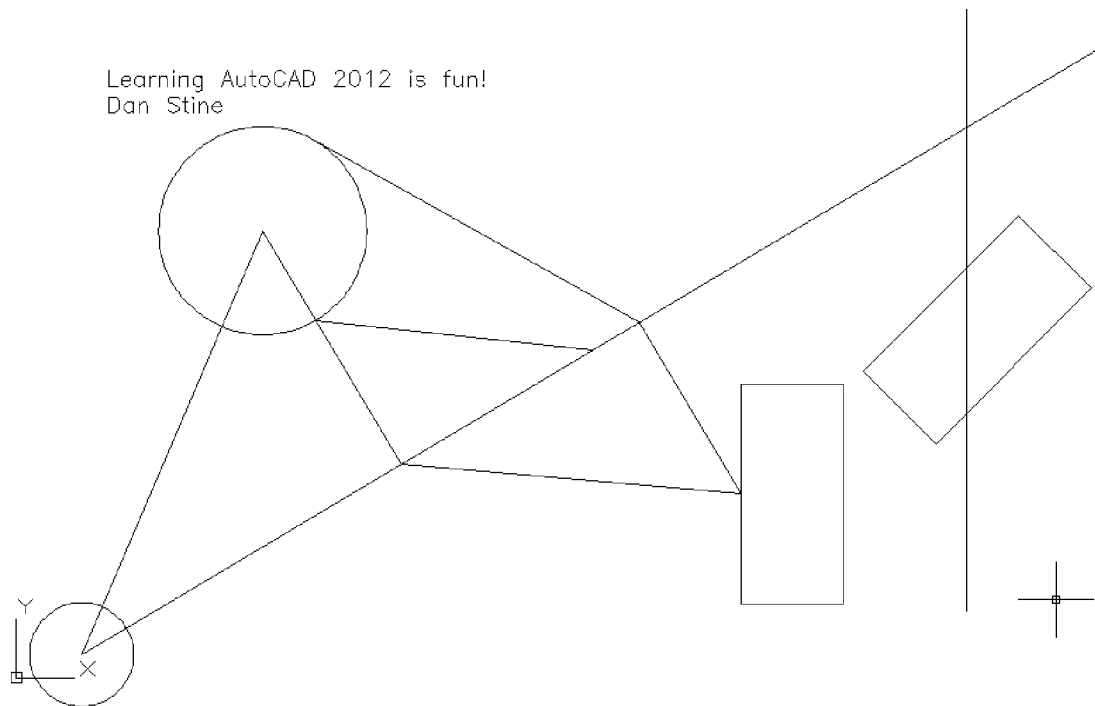

FIGURE 2-4.4 Mtext; final results of text entered
Your text should look similar to Figure 2-4.4. Text can be Moved and Rotated with the tools on the *Modify* toolbar.
2. Use the **Zoom** tools if required to display the portion of drawing shown in Figure 2-4.4.